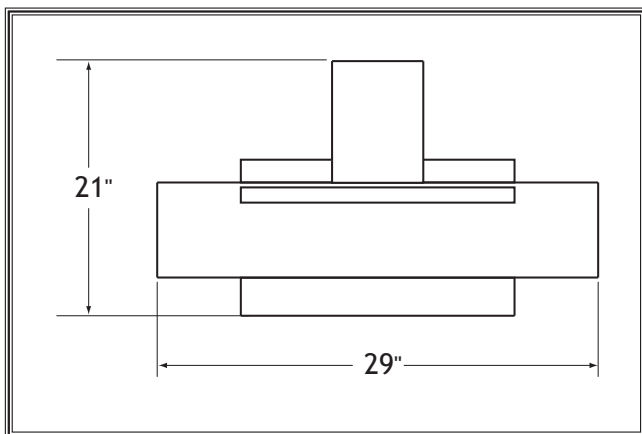

Figure 6. Machine dimensions.
- **Working Clearances:** Consider the size of material to be processed through the machine, space for auxiliary stands, work tables and other machinery when establishing a location for your Jointer. See **Figure 6** for the overall machine measurements.